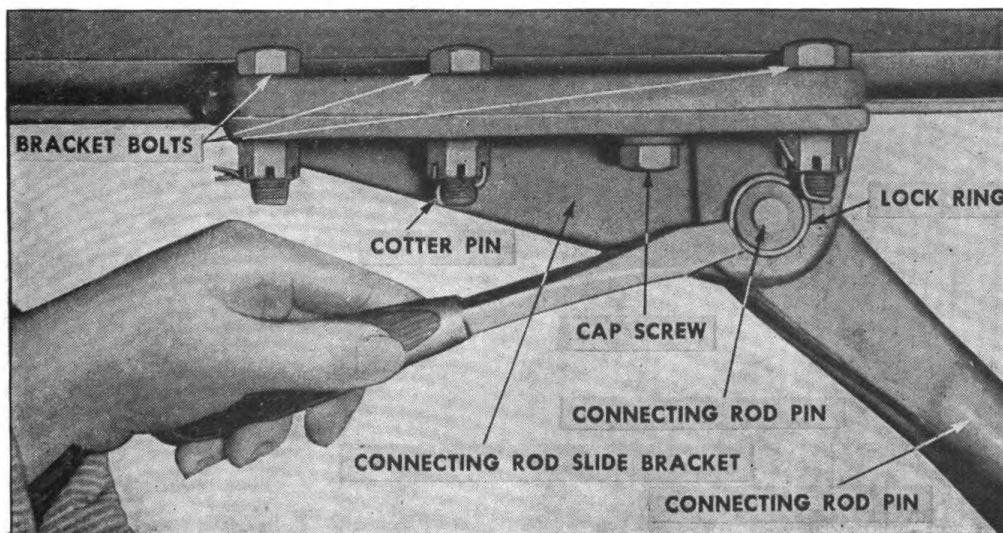
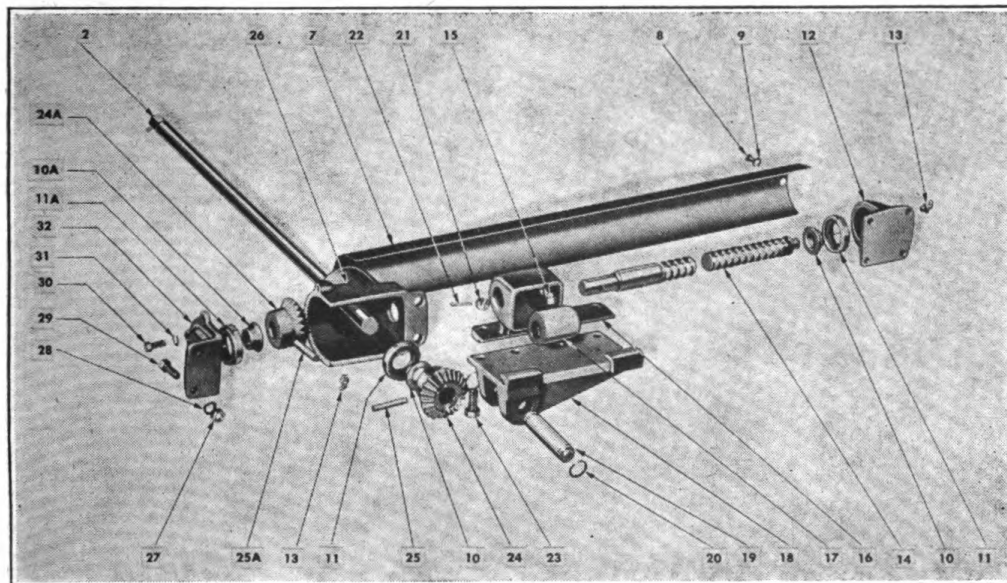
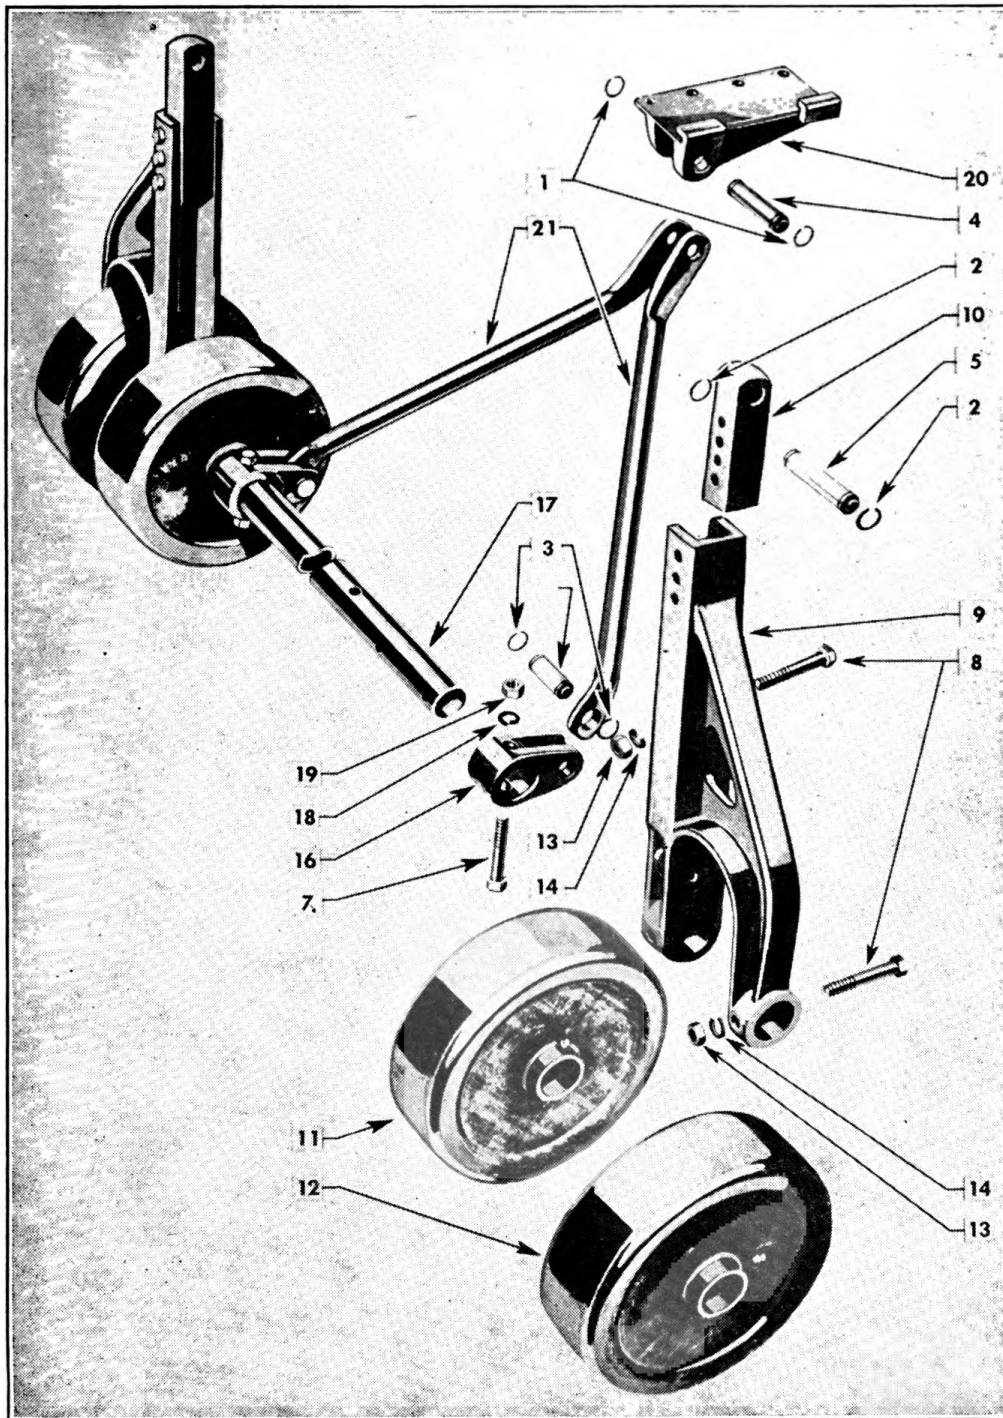

FIGURE 74. REMOVING CONNECTING ROD PIN.
FIGURE 78. SUPPORT OPERATING MECHANISM—EXPLODED.
FIGURE 79. SUPPORT WHEEL ASSEMBLY.
2. REMOVAL OF OPERATING ASSEMBLY ATTACHED TO I-BEAM.—*a.* Wind supports down until stop is reached. Place screwdriver into slot of lock ring; open lock ring and pry it off connecting rod pin (Fig. 74), and drive pin out.
3. REPLACEMENT OF OPERATING ASSEMBLY ATTACHED TO I-BEAM (Fig. 78).—*a.* Fill gear housing with a light grade of chassis lubricant.
b. Install bearing (11) and bearing sleeve (10) into rear bearing cap (12) (Fig. 78). Place a small daub of chassis lubricant into bearing.
4. DISASSEMBLY OF OPERATING ASSEMBLY (Fig. 78).—*a.* Remove assembly as outlined in paragraph 2, this section.
b. Remove three cap screws (30), lift cap (32) off of gear housing (26).
c. Turn nut housing (16) off screw (14).
- d.* Pull screw (14) with gear (24A) attached, out of gear housing (26).
- e.* Place screw (14) across wood block and drive pin (25A) out of gear (24A) using a long tapered $\frac{5}{16}$ " punch.
- f.* Pull operating shaft (2) with gear (24) attached, out of housing (26).
- g.* Place operating shaft across wood block and with the aid of a $\frac{5}{16}$ " long tapered punch, drive pin (25) out of gear (24) and tap gear off shaft.
5. REASSEMBLY OF OPERATING ASSEMBLY (Fig. 78).—*a.* Place gear (24) over shaft (2) with gear teeth to outside (Fig. 78). Drive drive pin (25) through hole in gear and shaft.
b. Place bearing sleeve (10) over end of operating shaft (2) with flange toward gear. Place bearing (11) over operating shaft (2) with concave surface over convex surface of bearing sleeve. Place shaft assembly through gear housing (26).
c. NOTE: Gears (24) and (24A) are interchangeable; bearings (11) and (11A) are interchangeable; drive pins (25) and (25A) are interchangeable; bearing sleeve (10) and (10A) are interchangeable.
d. Place gear (24A) over riser screw (14) with teeth facing thread on riser screw; fasten gear to riser screw, using drive pin (25A).
e. Place riser screw through hole in gear housing (26) so that teeth on both gears jibe.
f. Place bearing (11A) into bearing cap (32) with concave surface out and install sleeve (10A) into bearing with flat surface out.
g. Place bearing cap over end of riser screw and fasten cap, using three cap screws (30).
6. DISASSEMBLY OF WHEEL AND AXLE ASSEMBLY (Fig. 79).—*a.* Disconnect connecting rods (19) and slide bracket (20). (See illustration Fig. 74.)
b. Remove lock ring (2) from outer side of pin (5) and drive out the pins.
c. Remove bolts (8) from strut (9) and with a heavy hammer drive strut and wheels off axle.
d. Remove lock ring (3) from pin (6); remove bolt (7) and tap connecting rod link (16) off axle.
e. NOTE: All parts, as illustrated in Fig. 79 are interchangeable from right to left and vice versa.
f. CAUTION: Make final inspection, prior to placing this unit in operation after supports have been worked upon, to make certain all bolts are in their proper place, and tighten down. Check to make certain lock rings have been placed on all hinge pins, see Fig. 79 for position of all hinge pins and lock rings.